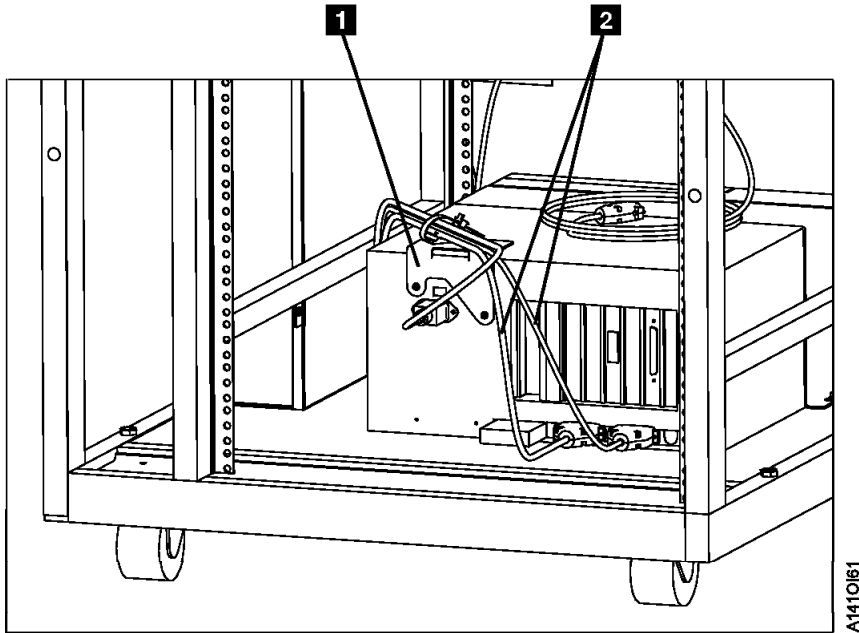

Figure 6-18. Rear A00 Controller Cable Connections
3. Remove any cable retention that is holding any cables to the back of the A00 control unit. Refer to Figure 6-18 on page 6-36 **8**.
- \_\_\_ 4. Remove all of the existing cables from the back, (front of the A14), of the A00 Control Unit. (Refer to Figure 6-18 for the cable locations.)